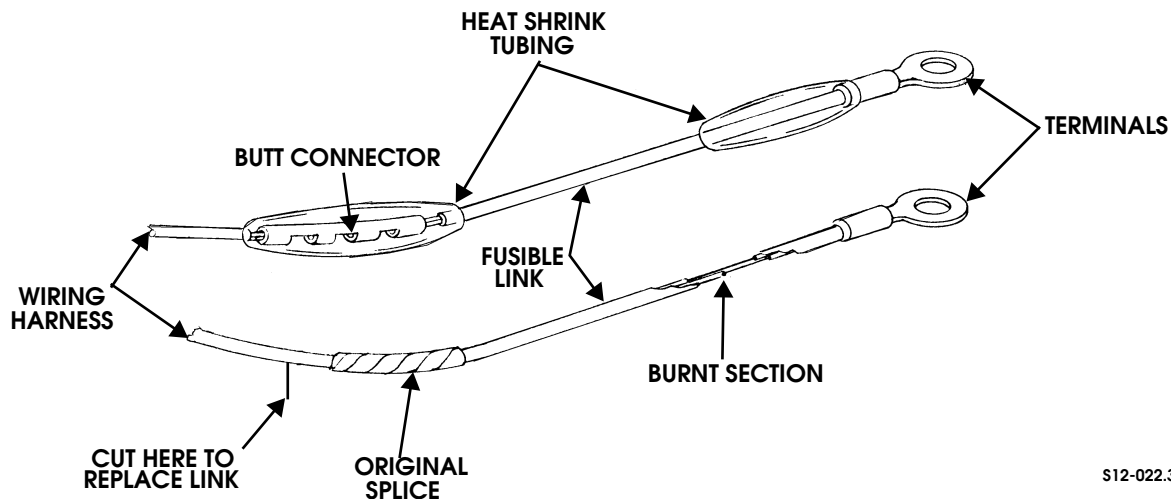

Figure 12-7: Fusible Link
3. Locate original wiring harness splice between fusible link and wiring harness (Figure 12-7).